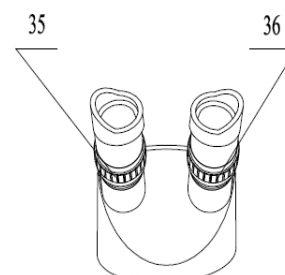

Figure 4
(2) Straight drawtube focusing adjustment (Figure 1, Figure 4)